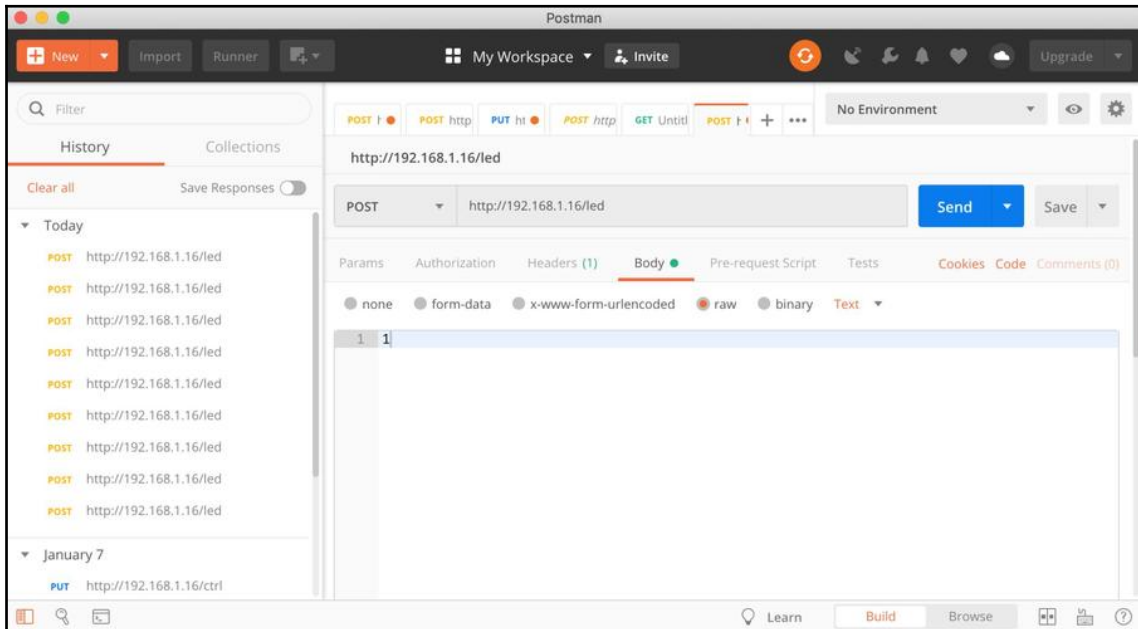

Figure 5-12: Sending HTTP requests using the Postman tool
2. Select the **raw** option for the request body in the Postman tool. Then, give a value of 1 to the body content, as shown in figure 5-12: